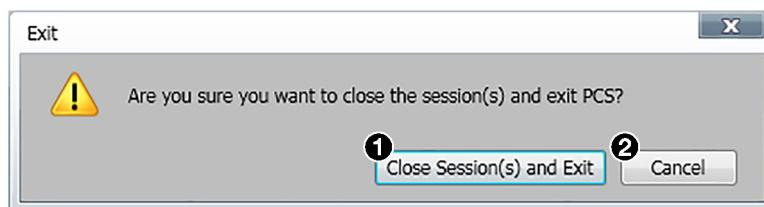

Figure 46. Exit Dialog Box
- If necessary, click the **Close Session(s) and Exit** button (see figure 46, ①) to disconnect the software from connected devices, close all offline device tabs, and close the software. Click the **Cancel** button (②) to leave the software open.